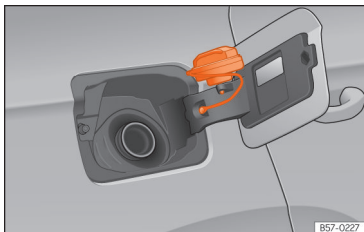

Fig. 215 Fuel tank flap with tank cap attached.
- Place it in the space on the hinge of the open flap »» Fig. 215.